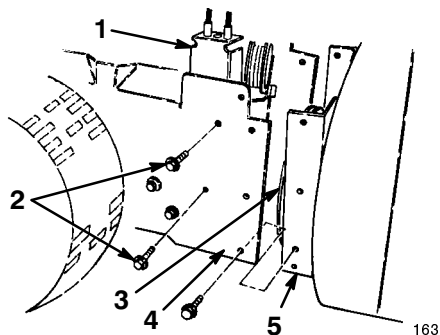

Figure 2
1. Remove the two flange head cap screws that secure the idler pulley assembly to the engine frame, and remove the idler pulley assembly (Fig. 2).
2. Align the auger/impeller housing and the engine frame mounting holes (Fig. 2).
3. Route the impeller belt around the impeller pulley (Fig. 2).
5. Install the idler pulley assembly, aligning the idler pulleys with the belts (Figs. 2 and 31).